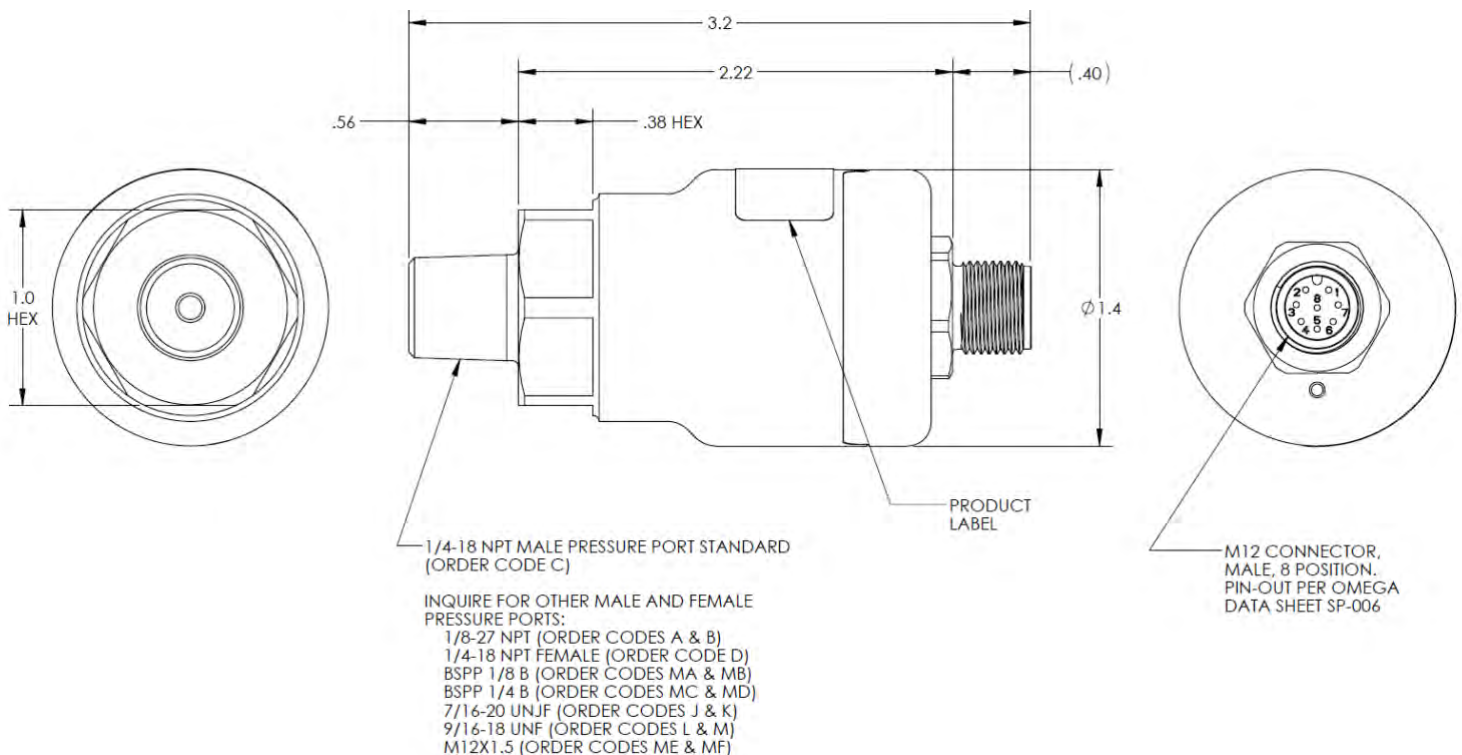

Figure 3: SP-006 Dimensions and Pressure Ports. Units shown in INCHES
- Inquire with Omega Engineering for other pressure port options. Refer to Figure 3.